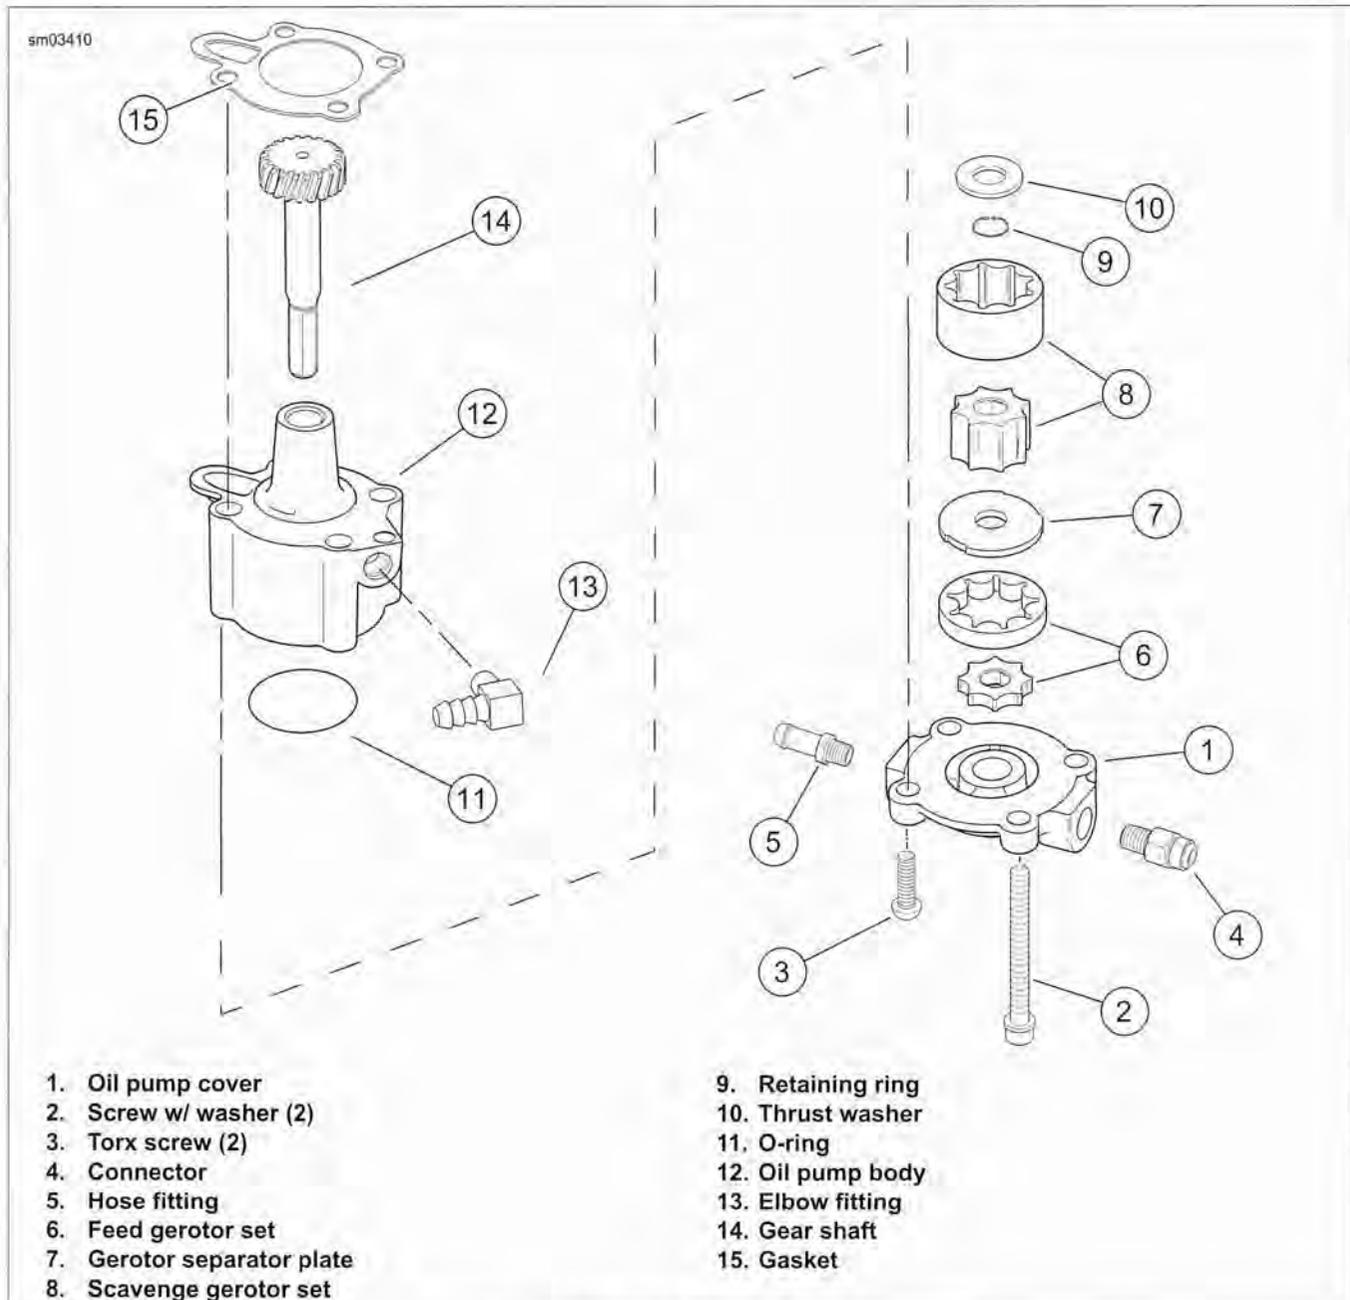

Figure 3-131. Oil Pump: XL Models
See Figure 3-131. The oil pump is designed to be removed as a complete assembly by removing the two long screws (2) at opposite corners of the pump. The other two screws (3) hold the pump together so that it may be removed and installed as a unit.
3. See Figure 3-131. Carefully remove two screws (2) that secure oil pump to crankcase. Pump will drop with screws removed. Discard mounting gasket (15).
1. See Figure 3-131. Remove two Torx screws (3). Lift cover (1) off body (12). Remove and discard O-ring (11).
2. Slide both pieces of feed gerotor set (6), separator plate (7) and both pieces of scavenge gerotor set (8) off gear shaft (14).
3. Remove and discard retaining ring (9). Remove thrust washer (10) and gear shaft.
1. See Figure 3-131. Install gear shaft (14) through oil pump body (12). Position thrust washer (10) over end of shaft. Install **new** retaining ring (9) into groove in shaft.
2. Insert inner gerotor of the scavenge gerotor set (8) over gear shaft.
4. Position separator plate (7) into case and line up slots on perimeter with tabs inside oil pump body.
5. Place feed gerotor set (6) over gear shaft.
6. Install a **new** O-ring (11) into groove in oil pump cover (1). Place cover onto pump body. Install two Torx cover screws (3). Tighten to 70-80 **in-lbs** (7.9-9.0 Nm).
1. See Figure 3-131. Place **new** mounting gasket (15) in position.
2. Secure pump to crankcase with two screws (2). Tighten to 125-150 **in-lbs** (14.1-16.9 Nm).